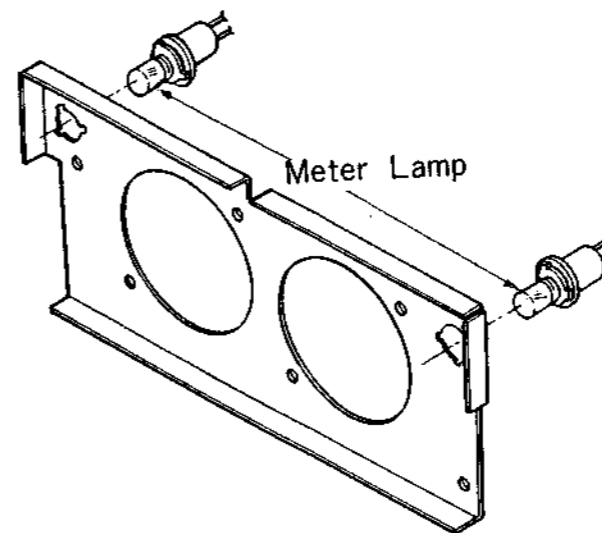

Fig. 2-6. Meter Lamp Replacement
- d. Turn the black plastic lamp socket clockwise (as viewed from the back of the panel) and pull out the socket. See Fig. 2-6.